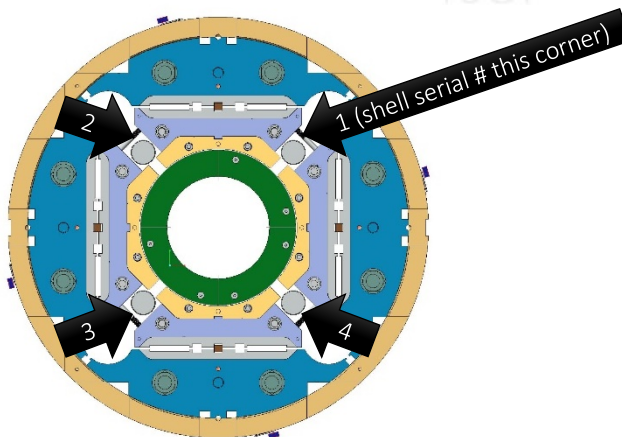

Figure 14: Numbering convention of rod locations. View from the lead end.
25. Install each axial rod. Protect the Strain Gauges and wire during installation. The LE is the side with the square cut-out in the end of the rod. Record which rod goes in which location (locations numbered as in Figure 14).